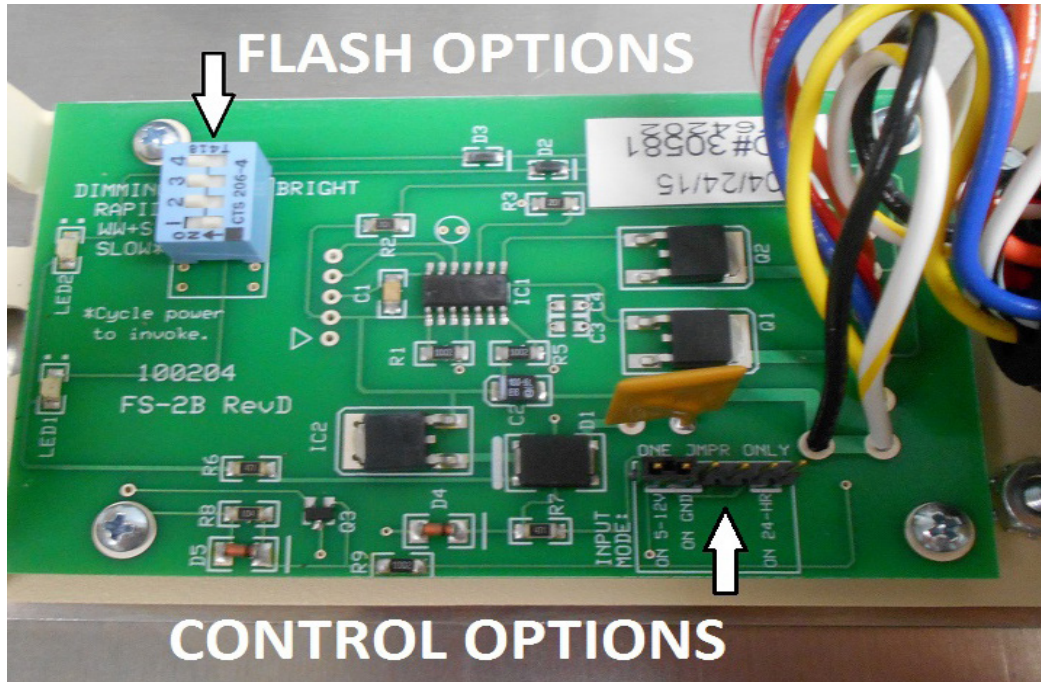

Figure 18 - DIP Switch and Header Locations
Check that the wiring in the RRFB head is positive to positive. The leads in the backbone harness should be marked '+' and '-'. RRFB leads have a three wire connection. Red is 12 VDC+, blue is switched ground output 1, and orange is switched ground output 2. If the wiring is correct, verify that you have 12+ volts cycling to the RRFB terminal block connections. If there is no voltage reading, verify that the FS-2B is displaying a flashing sequence to the on board LEDs (See Appendix F, Figure 18).
1. Continuous flash or **ON 24-HR**. The jumper selections are shown in Figure 18 above.
2. Flash when control input wire (yellow) brought high (5-12 VDC) – see **ON 5-12V** in Figure 18.
3. Flash when control input wire (yellow) is grounded – see **ON GND** in Figure 18.